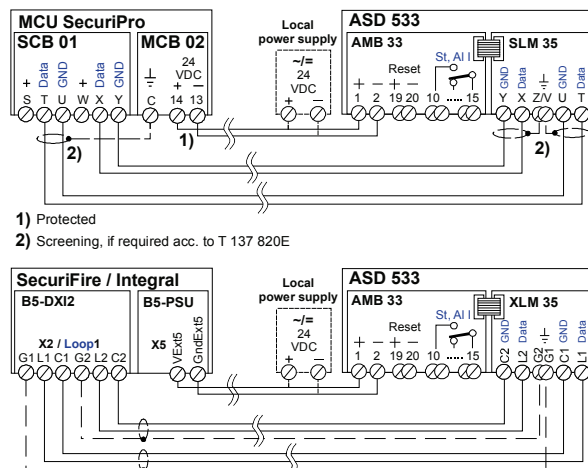

Fig. 39 Interconnection from XLM 35 / SLM 35
- The interconnection and line routing between **SLM 35** and the SecuriPro, SecuriFire and Integral FACP is to be carried out in accordance with **Fig. 39** (X to X, Y to Y and X to L2, Y to C2, etc.).
- The interconnection and line routing between **XLM 35** and the SecuriFire and Integral FACP is to be carried out in accordance with **Fig. 39** (L1 to L1, C1 to C1, etc.).